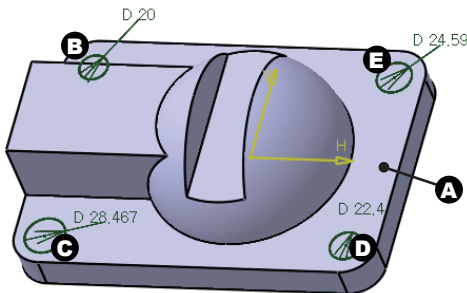

Fig 6-46 Sketch for Holes
1. Define the sketch plane on **A** in Fig 6-46 and create 4 circles as shown.
4. Modify the dimension designated by **B** in Fig 6-46 as 20mm
5. Press MB3 on the dimension **C** in Fig 6-46.
8. Press **OK**. The dimension **C** in Fig 6-46 is modified to 20 and the function symbol $\text{f}(\text{C})$ is applied.
- ① Method 1: Modify the sketch dimension **B** in Fig 6-46.
- ② Method 2: Use the **Formula** icon in the **Knowledge** toolbar.